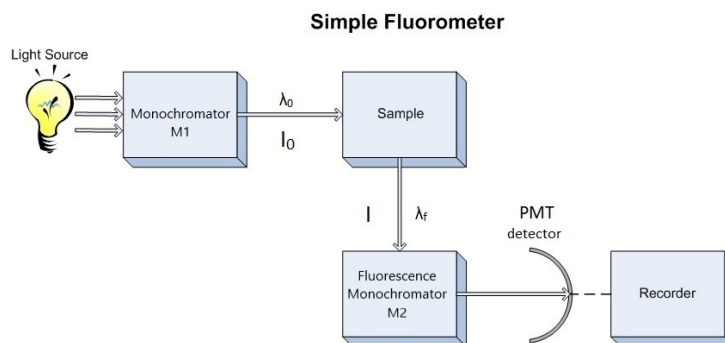

Figure 4.3: Schematic Diagram of Fluorometer. M1 = excitation monochromator, M2 emission monochromator, Photo Multiplier Tube detector.
Since our interest involves fluorescence, a typical experimental arrangement is shown in Figure 4.3. This is used in either of two distinct ways. The first, which holds the excitation monochromator M1 fixed, and varies the emission monochromator M2, yields an emission spectrum (the wavelength distribution of light emitted by the excited singlet state). When generating an emission section, the intensity of the transmitted light (I) is measured and compared to the transmitted light's measured wavelength (λ_f). Alternately, M2 can be fixed and M1 varied; this procedure produces an excitation spectrum (a plot of fluorescence intensity as a function of excitation wavelength). The excitation spectrum can be produced by measuring the intensity of the transmitted light (I) and comparing it to the measured wavelength of the incident light (λ_0). Often, the excitation spectrum of a pure compound has exactly the same profile as the absorption spectrum (Figure 4.1). The principles described by Figure 4.1 can be observed in the excitation and emission spectra. An example of these spectra can be seen in Figure 4.4.